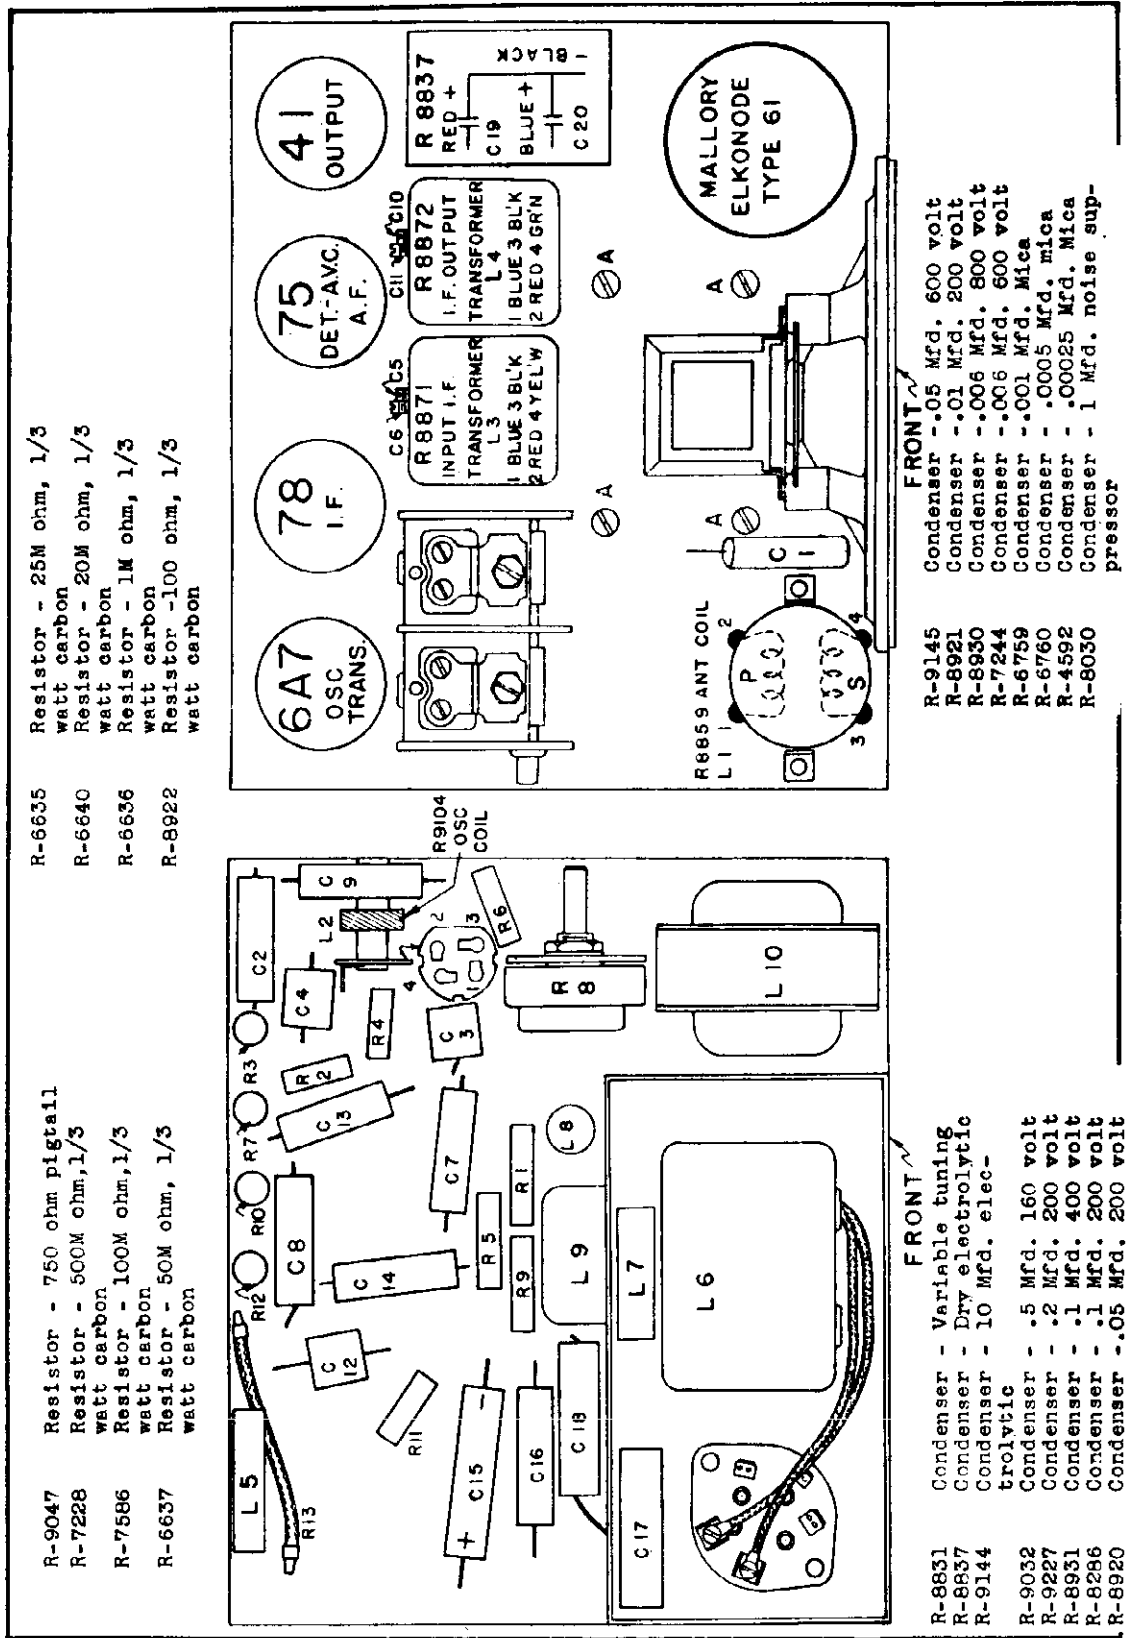

FIG. 41. SERVICE ILLUSTRATIONS - MODEL 150
The power transformer is SOLDERED into the case which contains it and the Elkonode socket and associated apparatus. It is necessary to do this to secure the perfect electrical grounding needed for complete elimination of noise from the power supply. Should the power transformer need replacement, the entire case assembly should be ordered. (Part #R-9036 C). It is removed by taking out the four screws marked (A) in Fig.41 and unsoldering the necessary leads.